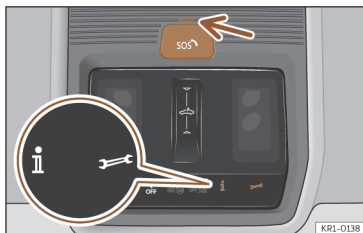

Fig. 46 On the roof console: controls for voice services.
The following voice services can be run by pressing the buttons **i**, **🔧** and **SOS** >>> **Fig. 46**:
>>> **Fig. 46** (arrow). It shows the following statuses:
1. Briefly press the button cover  and open the cover >>> **Fig. 46.**
emergency call system is activated by default. The control element is located on the roof console>>> **Fig. 46.**
1. Briefly press the button cover  and open the cover>>> **Fig. 46.**